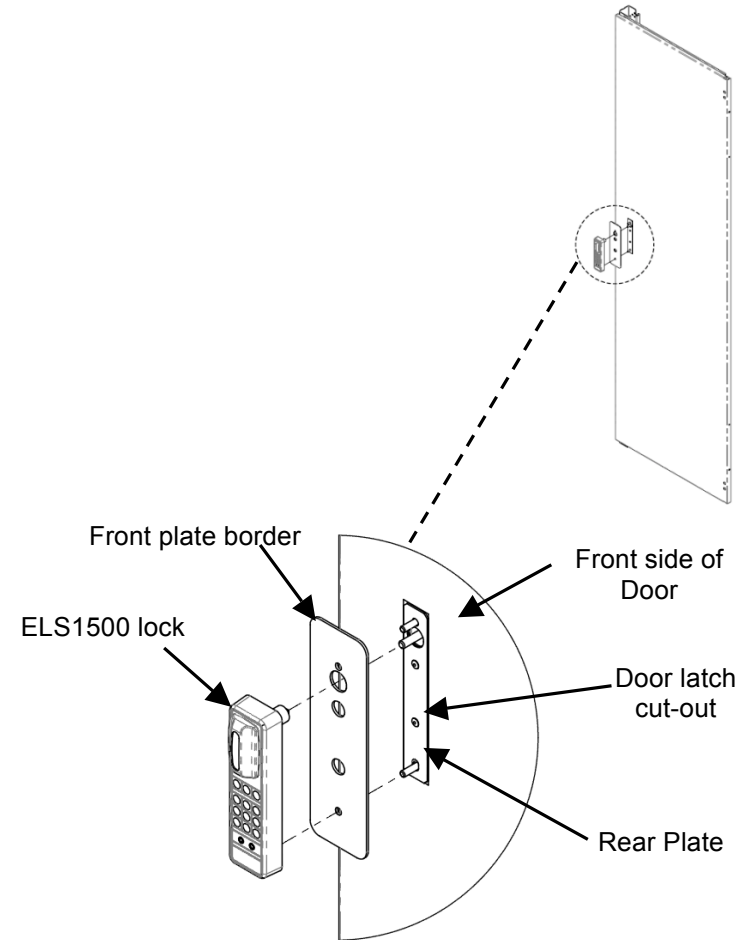

Fig. 7
2. Place the ELS1500 lock along with Front plate border on the rear door with the lock spindle orientation up and Rear plate from other side of door. (Fig.7)